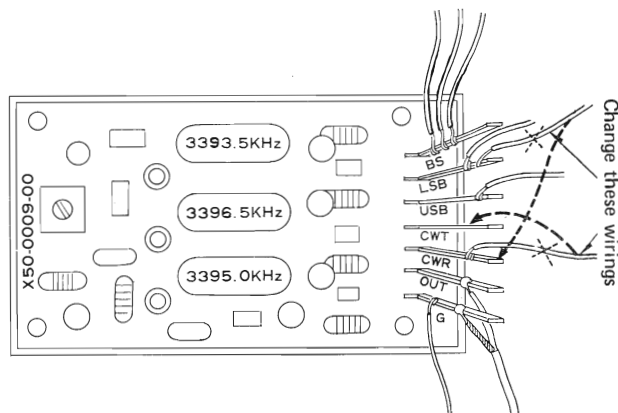

Fig. 2. Changing Wirings in CARRIER Unit
- (4) Disconnect the gray/white striped vinyl coated wire from the CWR terminal on the CARRIER unit (X50-0009-00), located inside the chassis, and replace it to the CWT terminal by soldering. Then cut the brown/white striped vinyl coated wire from the LSB terminal, and replace it to the CWR terminal by soldering. The installation work is now completed (Fig. 2).
- (5) Mount the top and bottom covers onto the transceiver set.